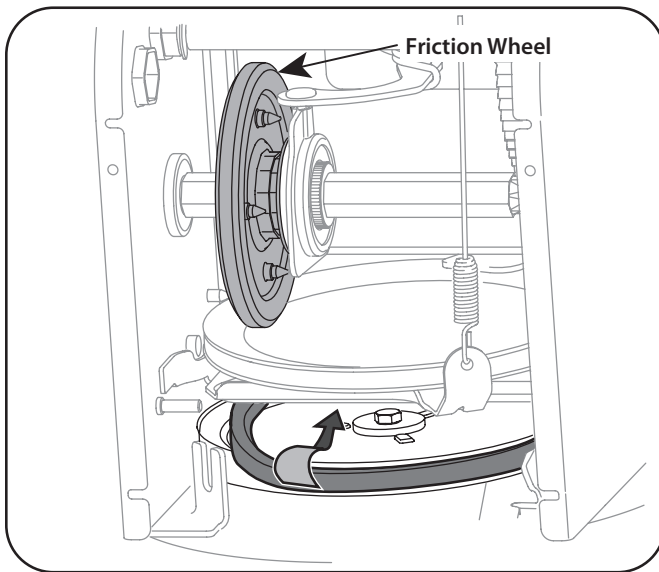

**Figure 7-6**
7. Remove the belt from around the auger pulley, and slip the belt between the support bracket and the auger pulley. See Figure 7-6.